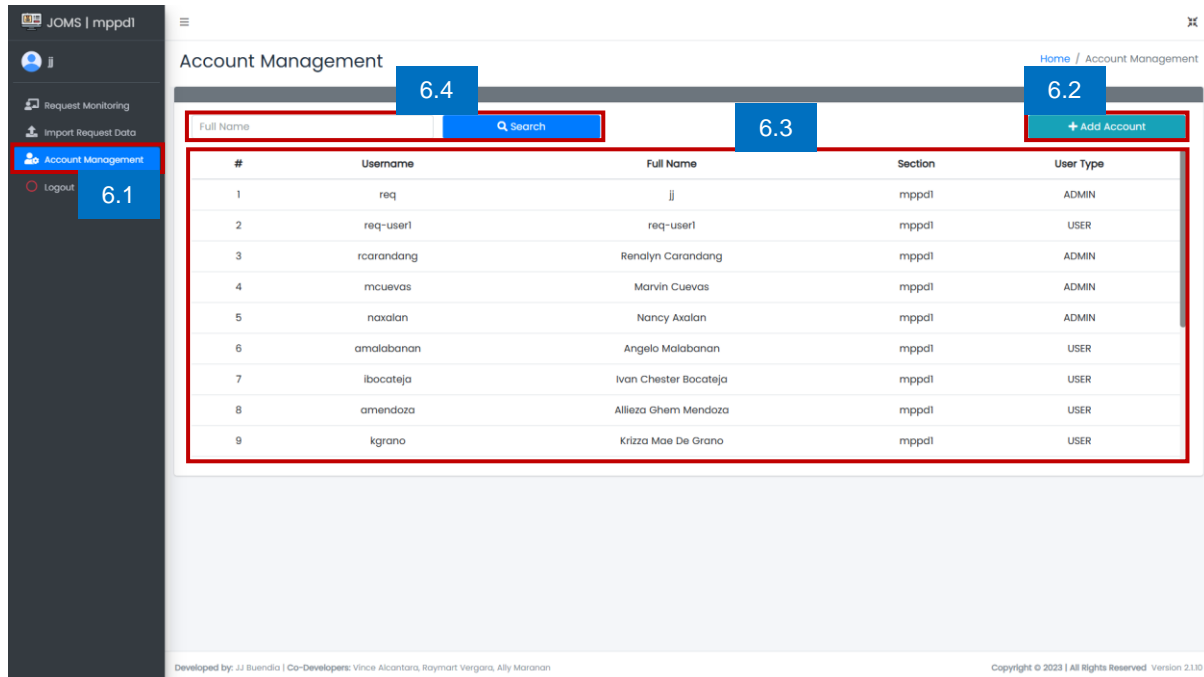

Figure 9. MPPD1 Account Management Page
6.1 Click the Account Management. (See Figure 9)
6.2 Click Add Account to create an account. (See Figure 9)
6.3 View table of accounts. To update, click row of data to be updated and same goes when deleting an account. (See Figure 9)
6.4 Search account by full name. (See Figure 9)